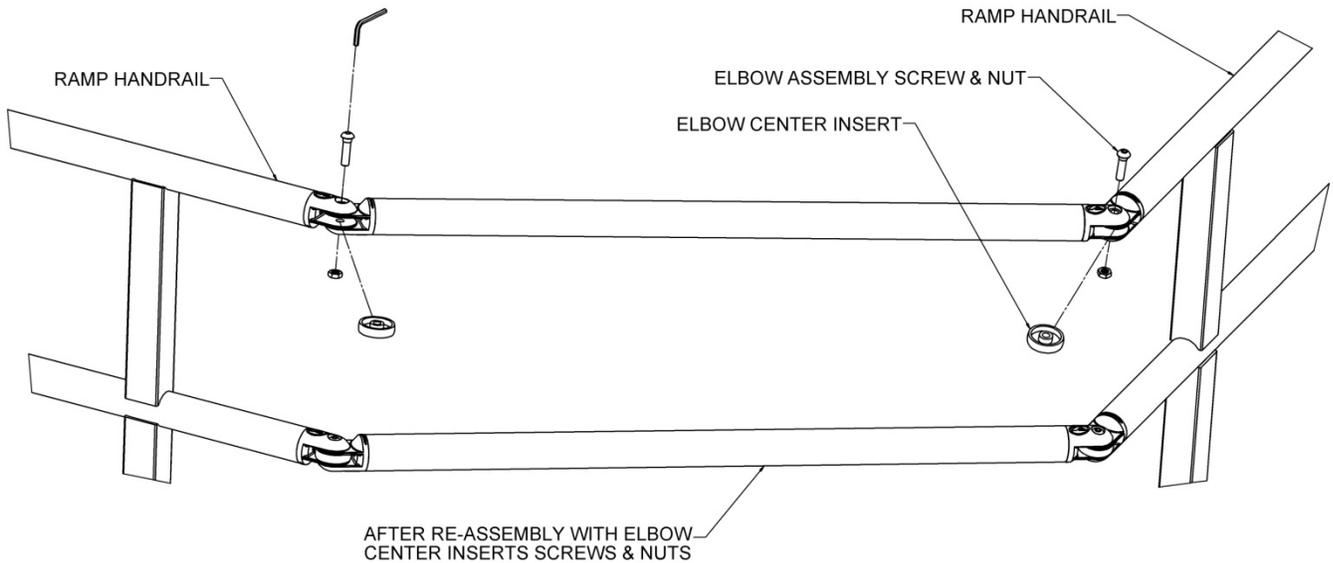

FIG. 6.4
- 6.1.8. Reassemble elbow by replacing center insert and securing with the screw and nut, then tighten all fasteners securely (FIG. 6.4).